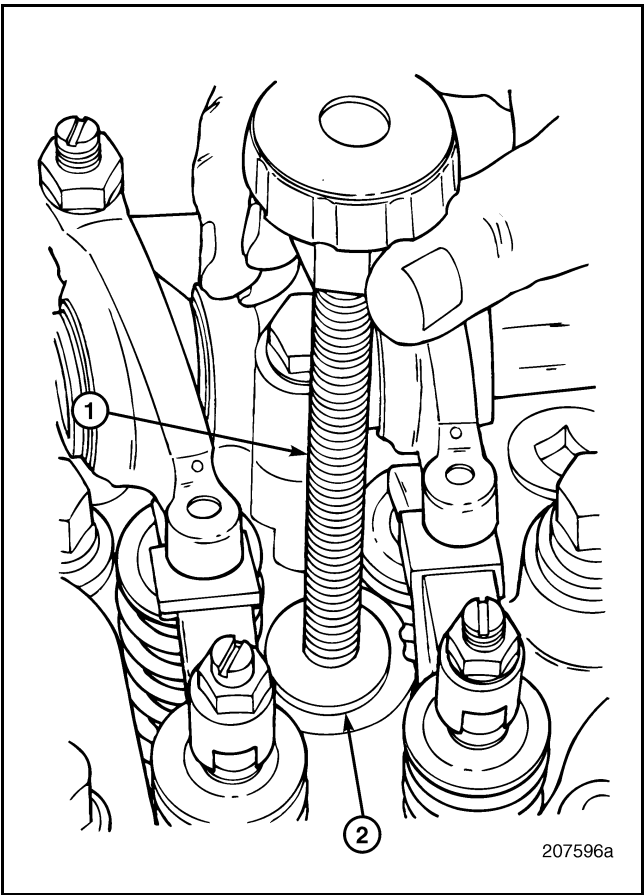

Figure 375 — Nozzle Holder Installation Check
7. Insert the gauge block into the nozzle holder sleeve bore. The gauge block should be flush with the top surface of the cylinder head nozzle sleeve bore. Refer to Figure 375.